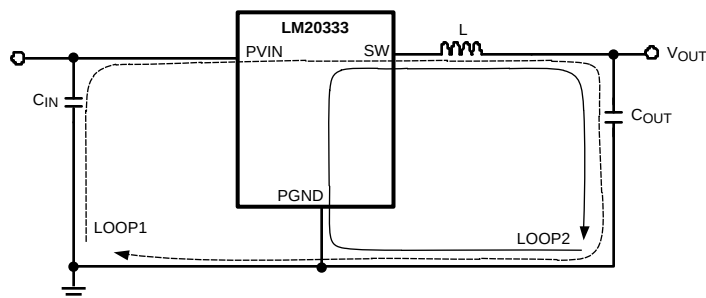

Figure 14. Schematic of LM20333 Highlighting Layout Sensitive Nodes
1. Minimize area of switched current loops. In a buck regulator there are two loops where currents are switched at high slew rates. The first loop starts from the input capacitor, to the regulator VIN pin, to the regulator SW pin, to the inductor then out to the output capacitor and load. The second loop starts from the output capacitor ground, to the regulator GND pins, to the inductor and then out to the load (see Figure 14). To minimize both loop areas the input capacitor should be placed as close as possible to the VIN pin. Grounding for both the input and output capacitor should consist of a small localized top side plane that connects to GND and the exposed pad (EP). The inductor should be placed as close as possible to the SW pin and output capacitor.